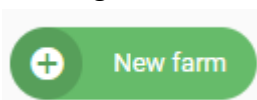

Figure 10 Username and password entry
- Enter your credentials (Username and Password) (See Figure 10).